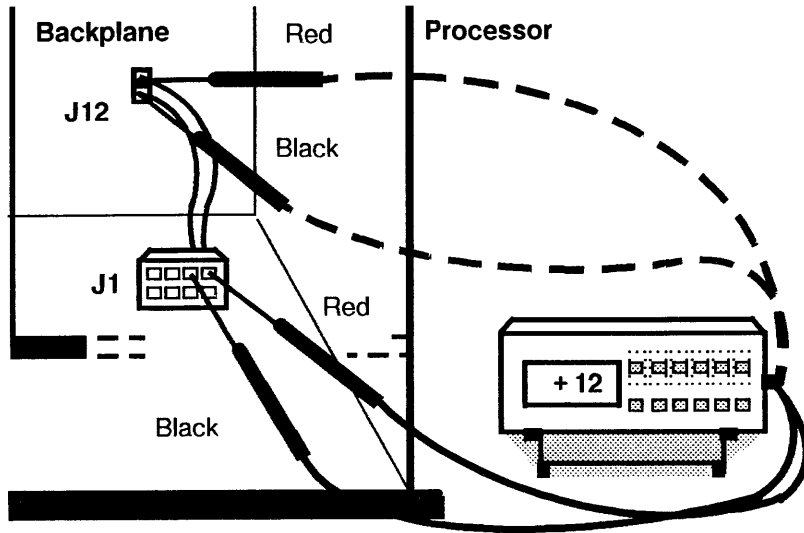

Figure 19. Fan Connector and Backplane
9. Reach in through the C7 cavity and connect the meter leads to the backplane connector, J12. (Figure 19) Check for +11.83 to +12.57 VDC at the backplane. The correct voltage is read.